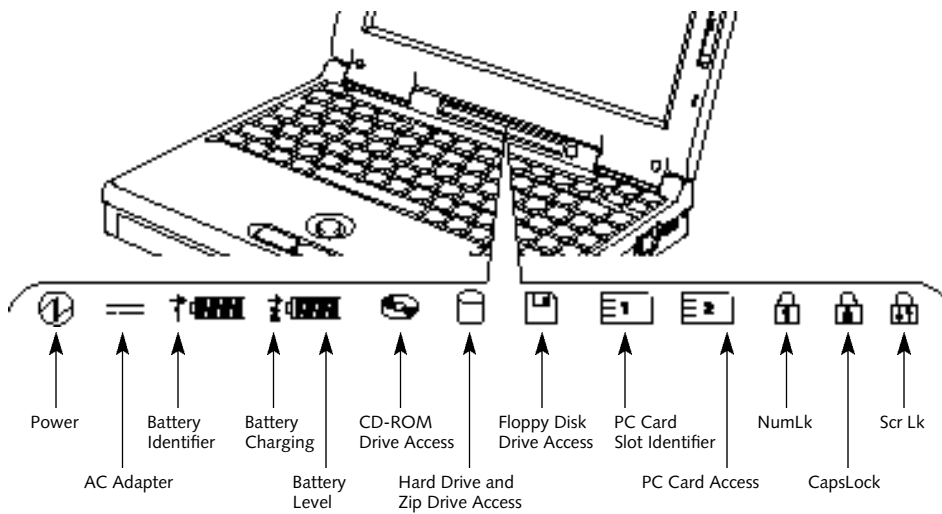

Figure 2-3 Status Indicator Panel
The Status Indicator panel is located in the recess just above the keyboard. (Figure 2-3.) The appropriate indicators become visible as you use your notebook.
The two sets of battery indicators show whether or not the primary Lithium ion battery and/or the optional second Lithium ion battery are installed, and indicate the condition of each. (Figure 2-3.) Battery 1 is the Lithium ion battery which is installed in Multi-function Bay 1 and Battery 2 is the Lithium ion battery which is installed in Multi-function Bay 2. The battery indicators are displayed only for a battery which is installed.
A small arrow icon (Battery Charging indicator) appears to the left of each of the Battery Level indicators and above the number (Battery identifier) if that battery is charging. The Battery Charging indicator flashes if the battery is too hot or too cold to charge. (Figure 2-3.) The Battery Charging indicators operate whether the power switch is Off or On.
**Before turning off the power by putting the power switch in the Off position, check that the Hard Drive/Zip Drive, CD-ROM, PC Card and the Floppy Disk Drive Access indicators are all Off. (See Figure 2-3, page 20.) If you turn off the power while accessing a disk or PC Card there is a risk of loss of data. The Off position is reached by facing the keyboard and display panel, and moving the switch toward the front of your notebook. To assure that your notebook shuts down without error, use the Windows 95 shut down procedure.**